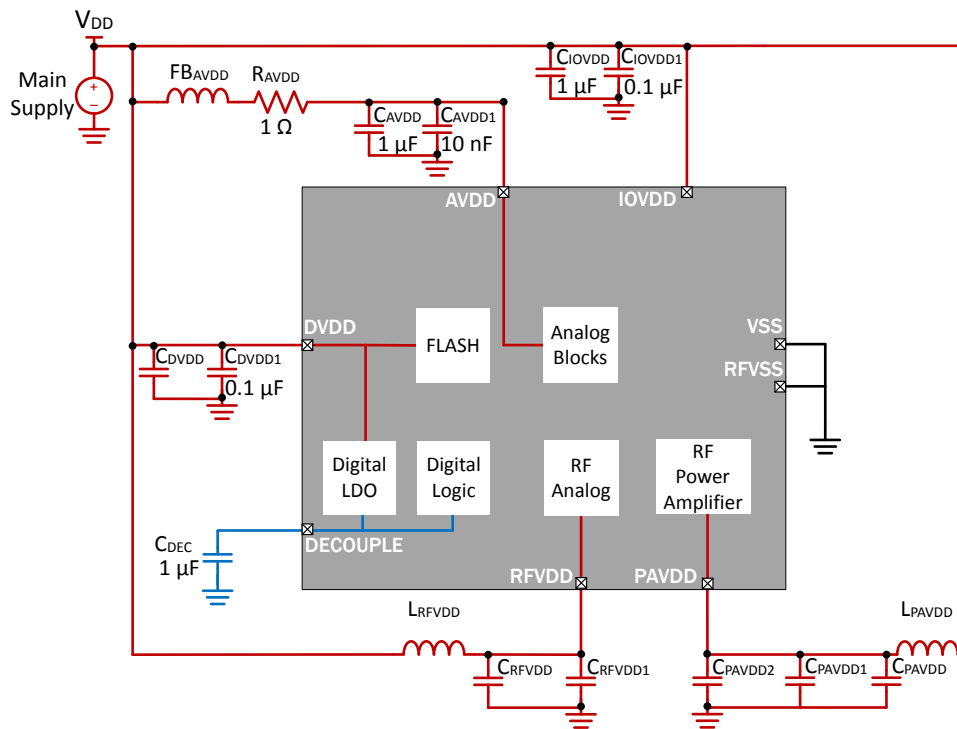

Figure 3.2. EFM32 and EFR32 Wireless Gecko Series 2 Improved AVDD Filtering Example
- Removed AVDD voltage sequencing note from Figure 3.2 EFM32 and EFR32 Wireless Gecko Series 2 Improved AVDD Filtering Example on page 16 as it does not apply to Series 2 devices.